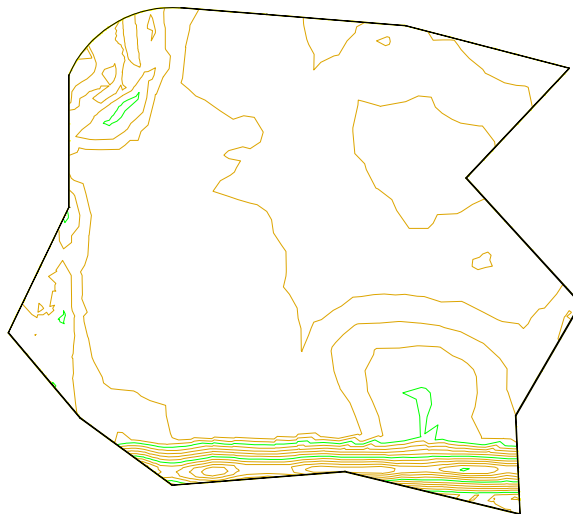

Figure 4-40 Surface for Watershed and Water Drop analyses
In this tutorial, you will perform the Watershed and Water Drop analyses for the given surface. You will also extract objects from the given surface, refer to Figure 4-40.
3. Select the file *c04_c3d_2027_tut04.dwg* and choose the **Open** button to open the file. The file consists of a surface that displays its contours and surface border; refer to Figure 4-40.